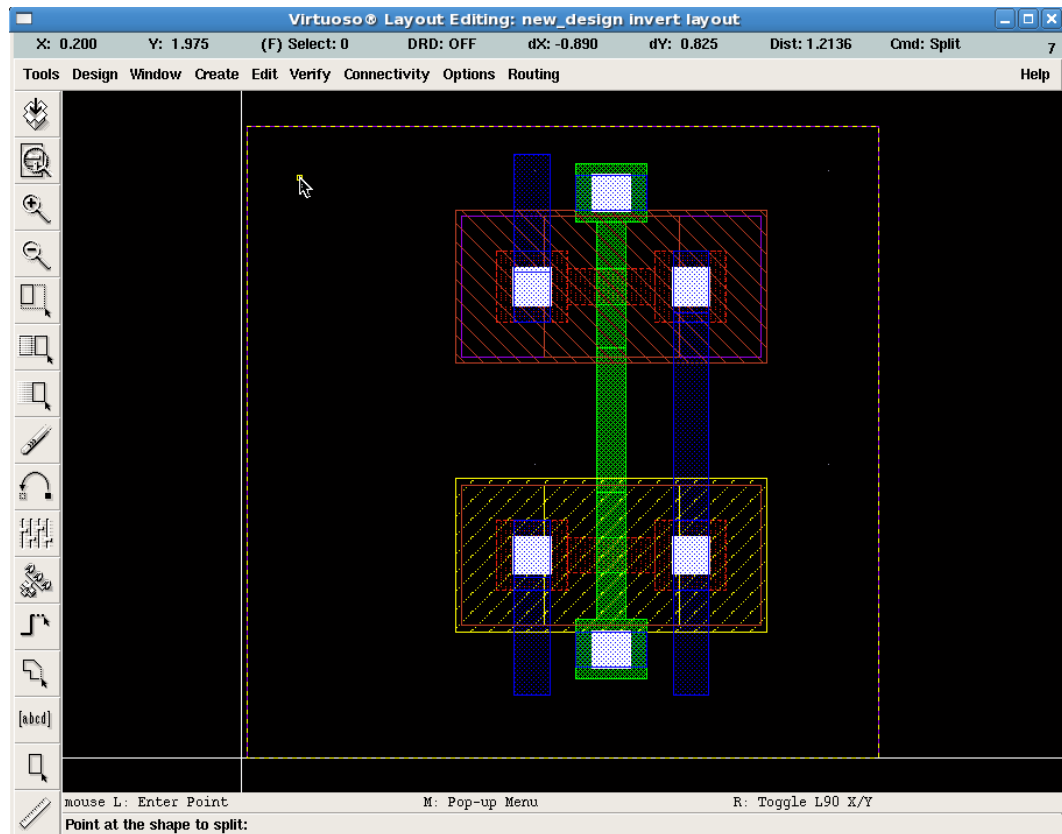

Fig.20
3. Click "Auto route->Detail route" to complete the auto routing (Fig. 20).